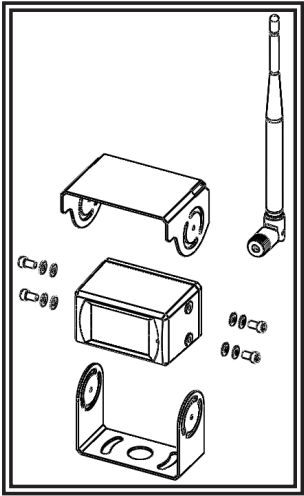

Figure 6
- 3. Install the camera and sun-visor on the U-bracket as shown in Figure 6.